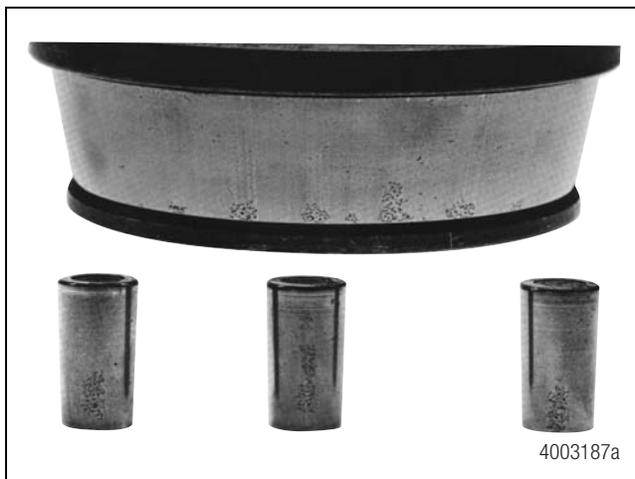

Figure 4.14
- H. The races or rollers are etched. Figure 4.14.